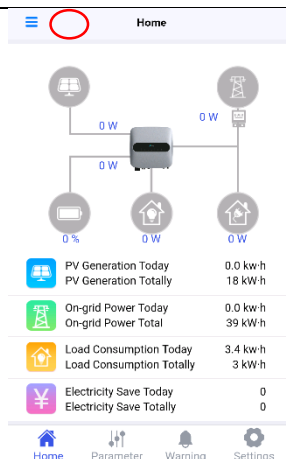

Figure 3-2
- a. Tap the bottom on the top left of screen, enter APP sidebar (Figure 3-2)